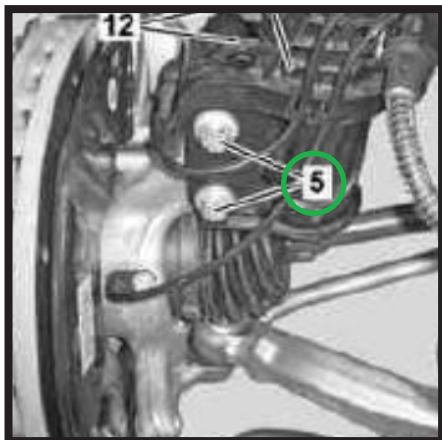

FIGURE 7 - #5
9. LOOSEN AND REMOVE THE LOWER MOUNTING BOLTS. SUPPORT THE SPINDLE TO PREVENT DAMAGE TO THE AXLE AND LINES (FIGURES 7, 8 - #5, #11)